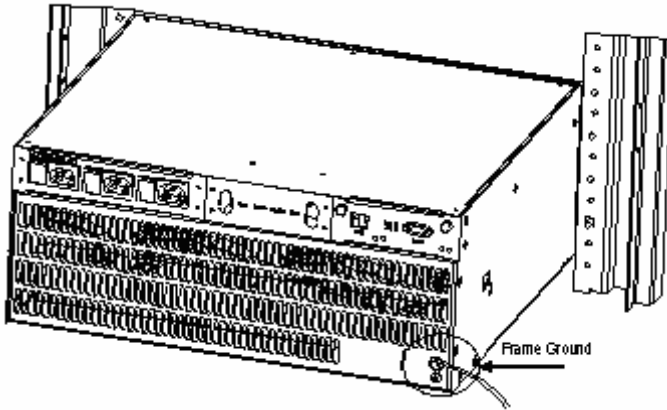

Figure 4-3 Frame grounding
- 1) Recommended the 16 mm2 cable with a M6 single hole terminal lug is connected to PE grounding terminal on the rear of the chassis, as shown in Figure 4-3.